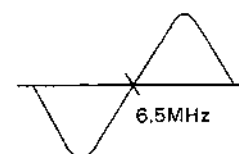

Fig. 24
4. Adjust the wave center to 6.5MHz and also for maximum gain with T201, T203 (Fig. 24).